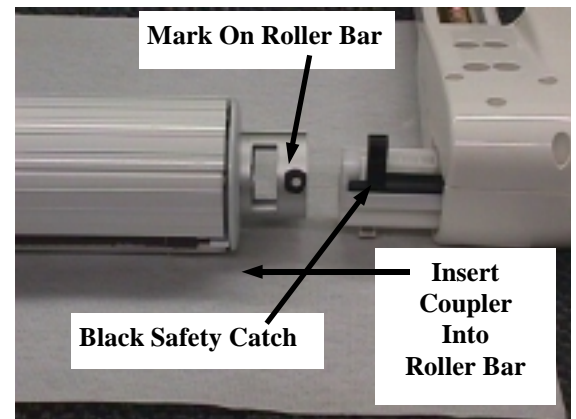

figure 3
B. Lay awning arms face down on a clean protected surface. Align the black safety catch on the motor drive coupler with the black mark on the roller bar. **Figure 3**. Insert the motor drive coupler into the roller bar at that point while depressing the black safety catch on the coupler. Once the coupler is partially inserted, depress the black safety catch again and continue to slide the coupler into the roller bar until it is completely inserted.